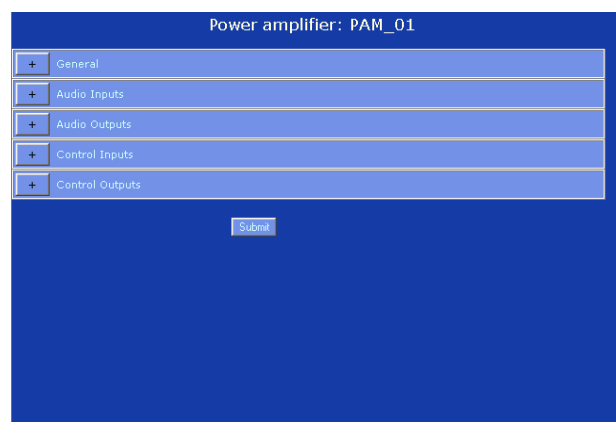

figure 34.9: Configure power amplifier, step 2
- 2 Click the name of the power amplifier that must be configured. A screen similar the one in figure 34.9 appears in the main frame of the web interface.